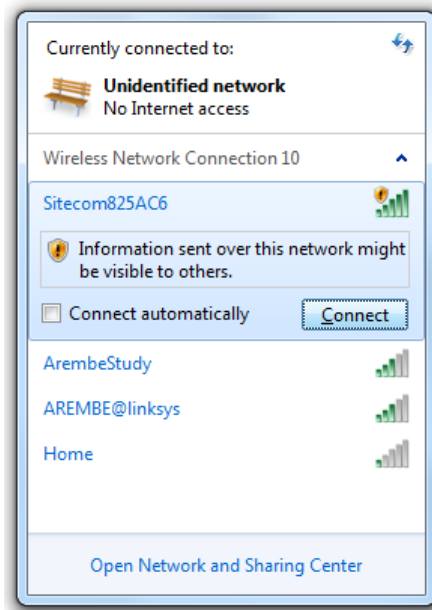

Figure 5-1, Connecting to a Wireless Network
- 3) Using the wireless device that you want to use to control the model 7230, such as an iPad, laptop, or smartphone, find the wireless network that you have just created. For the Sitecom Model 54g, the default wireless network name is Sitecom825AC6, as shown in figure 5-1 below
- 4) Connect to this network. In the example shown in figure 5-1, click the Connect button.